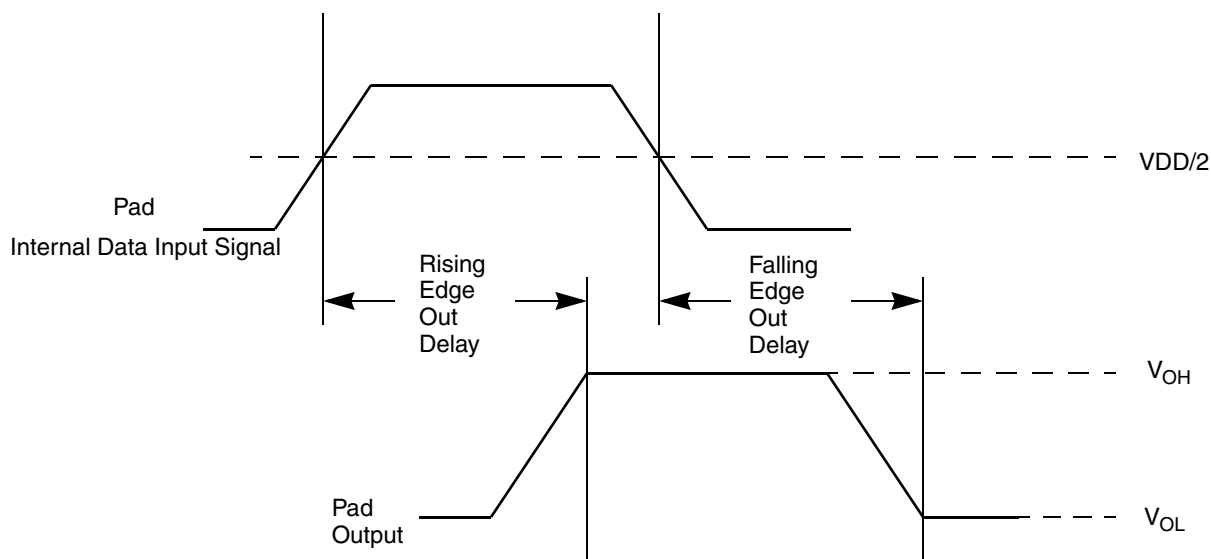

Figure 3. Pad Output Delay
- ³ Out delay is shown in Figure 3. Add a maximum of one system clock to the output delay for delay with respect to system clock.
- ⁴ Out delay is shown in Figure 3. Add a maximum of one system clock to the output delay for delay with respect to system clock.